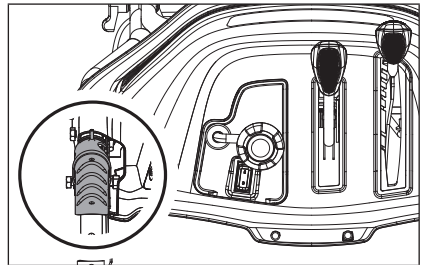

Figure 42
1. Locate the auger control cable, connected to the auger control lever on the left side (from behind the snowblower). (Fig. 42)